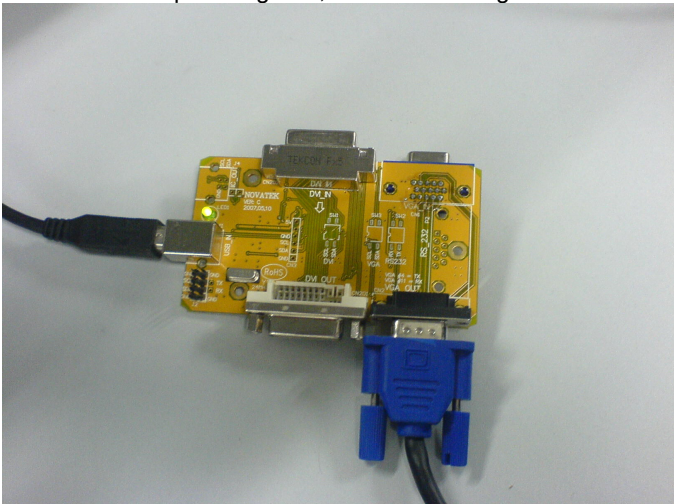

Fig1
4. Firmware uploading tool, as shown in Fig1.
- * Connect the firmware uploading tool as Fig.1 shown.